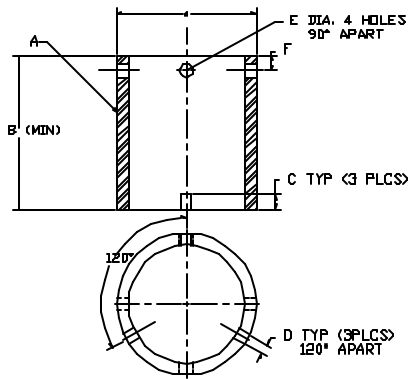
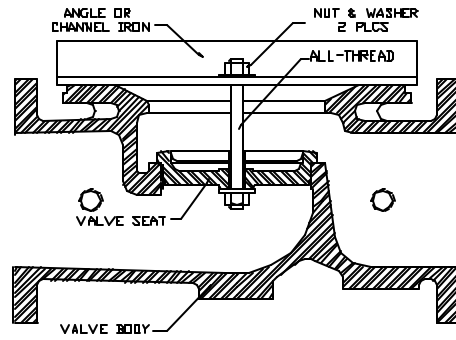

Figure 5
Figure 6
7. Inspect valve seat. If seat is not damaged, removal is not necessary. Valve seats 6” and smaller are threaded into the body of the valve and require a seat removal tool (Figure 5) (Table 3 details the tool dimensions for seat removal). Valve seats 8” and larger are held in the valve body with stainless steel cap screws. Remove seat retaining screws and lift seat straight up (Figure 6).